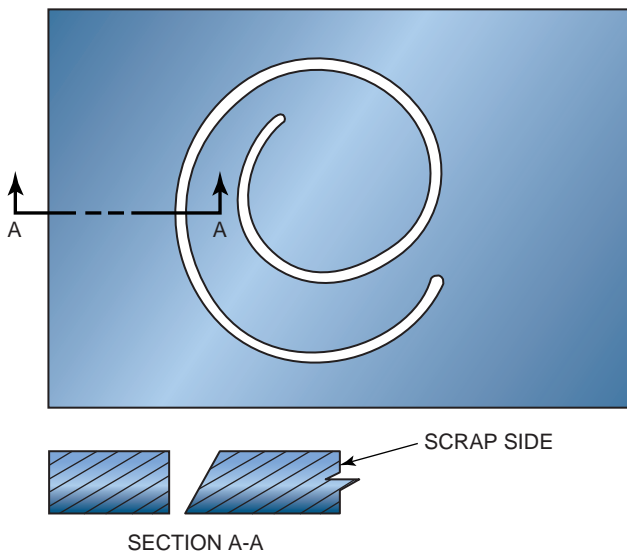

FIGURE 7-32 When cutting a hole, make a test to see which direction to make the cut so that the beveled side is on the scrap piece.
- Move the torch in a counterclockwise outward spiral until the hole is the desired size, **Figure 7-32**.